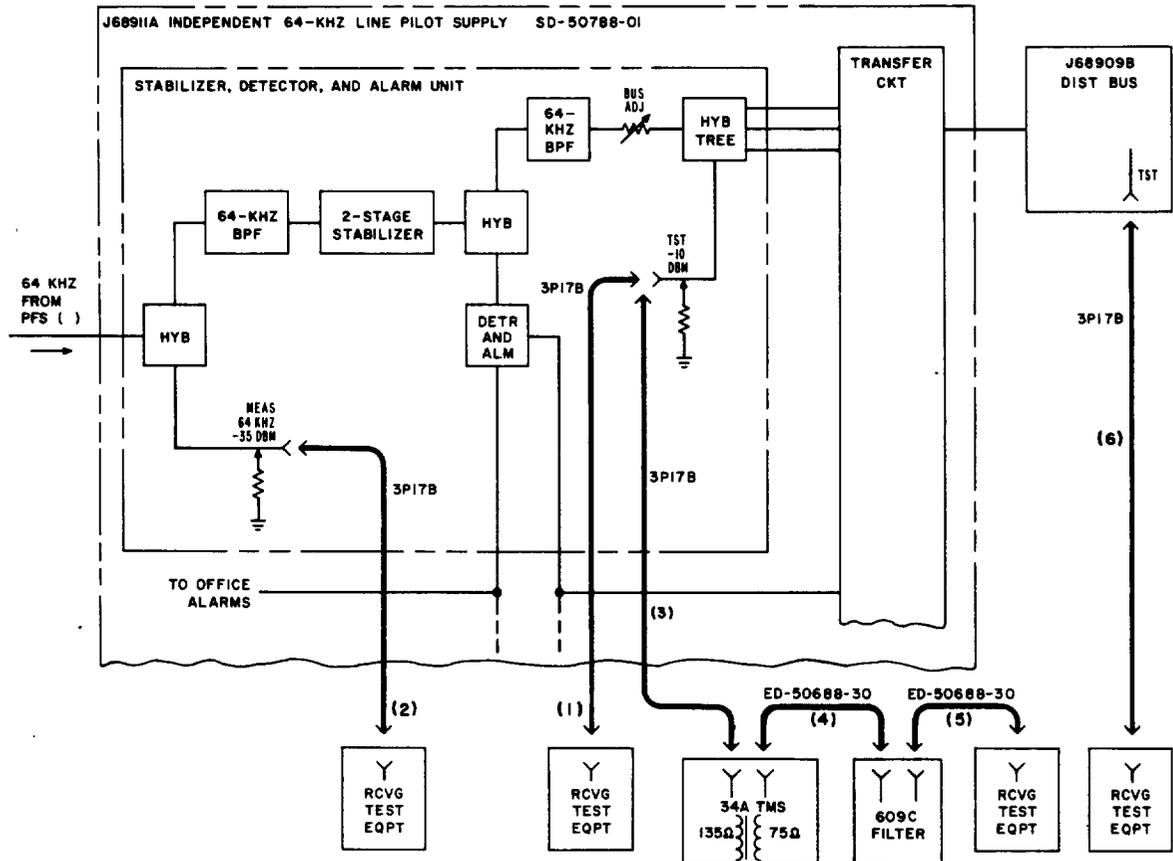

Fig. 4—Independent 64-kHz Pilot Supply and Distribution Bus Test Connections
- 3 Measure the power of the 64-kHz signal at the TST -10 DBM jack on the idle stabilizer [patch (1), Fig. 4].
- 7 Measure the power of the 64-kHz signal at the MEAS 64 KHZ -35 DBM jack on the *idle stabilizer* [patch (2), Fig. 4].
- 2 ♦Remove patch (2) in Fig. 4.
- 4 Make patches (3), (4), and (5) in Fig. 4.
3	Measure the power of the 64-kHz signal at the TST jack on the first J68909B distribution bus [patch (6), Fig. 4]. Requirement: -30.0 dBm \pm 0.1 dB